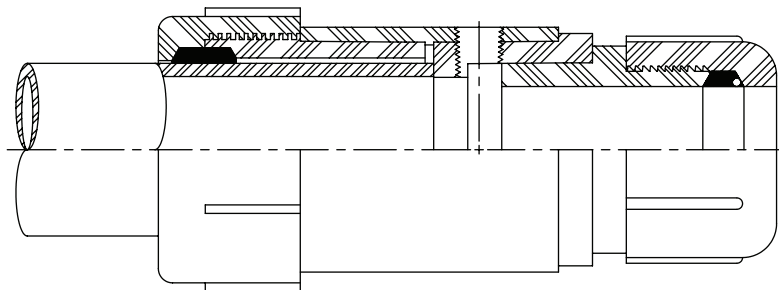

Figure 2
5. Tighten compression nut until it shoulders against the body of the outlet. **Do not over tighten.** See figure 2.